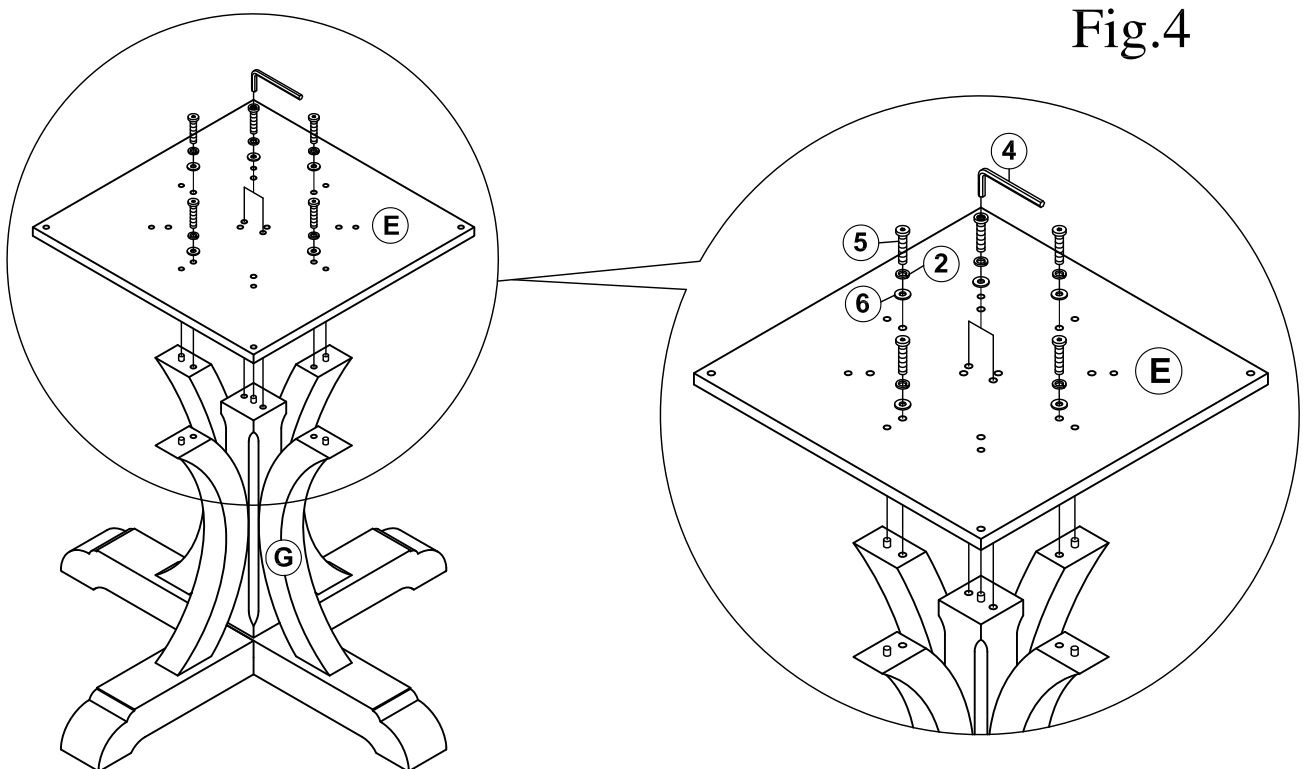

Fig.4
Attach Mounting Plate (E) to the Post (F) and Trestle Bar (G) using the provided hardware as shown on Fig.4.